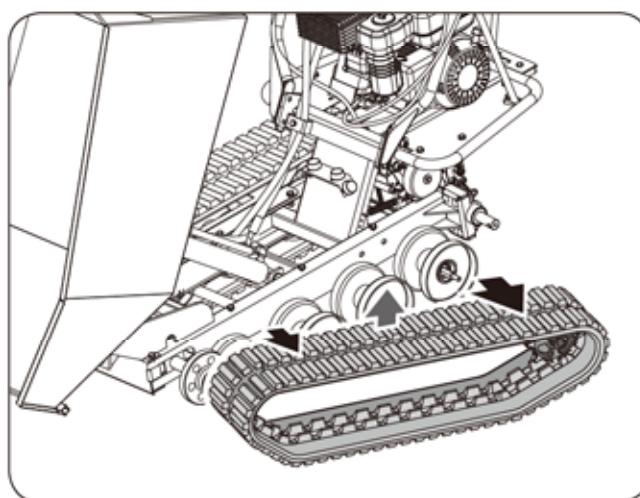

Figure 11f
7. Pull out the whole track with driving wheel. (See **Figure 11f**)